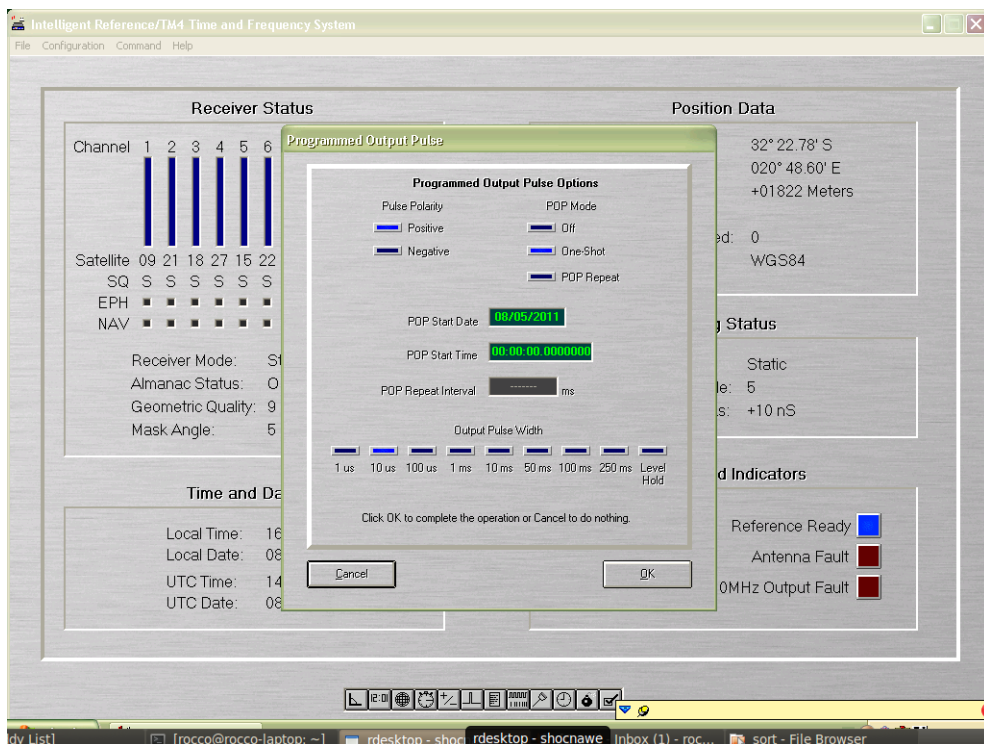

Figure A.7: The GPS Programed Output Pulse (POP) menu.
- (e) Click on the wording “POP Status” and select: “Pulse Polarity” to be “Positive”, “POP Mode” to be “One-shot” and “Output Pulse Width” to be $10\mu\text{s}$ (these parameters are also shown in Figure A.7).
- (g) Click on the wording “POP Status” and select: “Pulse Polarity” to be “Positive”, “POP Mode” to be “POP Repeat” and “Output Pulse Width” to be $10\mu\text{s}$. These parameters are shown in Figure A.7.